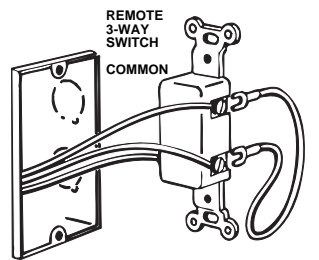

FIG. 4 Model EJ353 Installing jumper wire at switch.
9. INSTALL JUMPER WIRE at second 3 way location for MODEL EJ353 (See Figure 4 and 5).